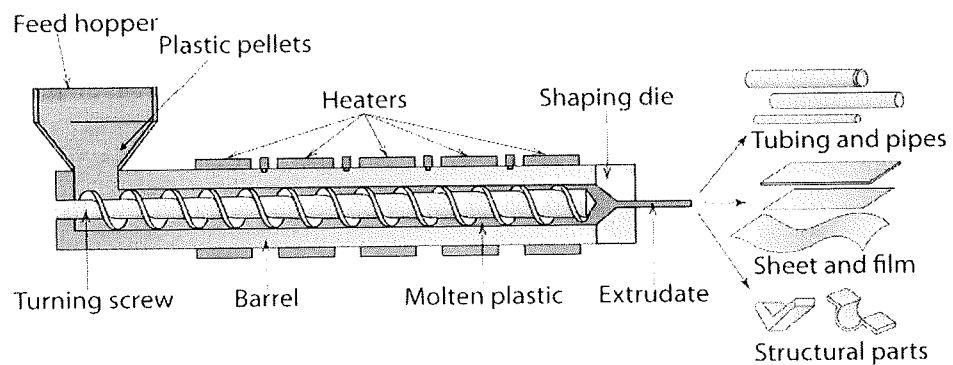

Figure 1 – Schematic of an extruder
1. [a] Figure 1 shows a schematic of an extruder that could produce various types of plastic products.
- (i) Construct a process mapping on extruder process in Figure 1 by identifying the manipulated inputs, disturbance inputs and response if the products are tubing and pipes.